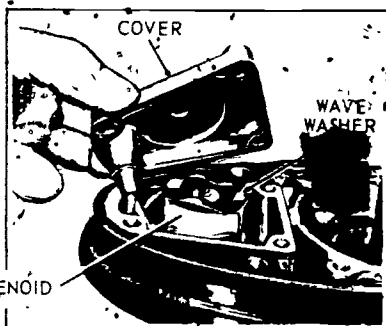

FIGURE 3
- I. Remove screw holding solenoid cover and wave washer. (Figure 3)
- J. Remove solenoids (Figure 3)